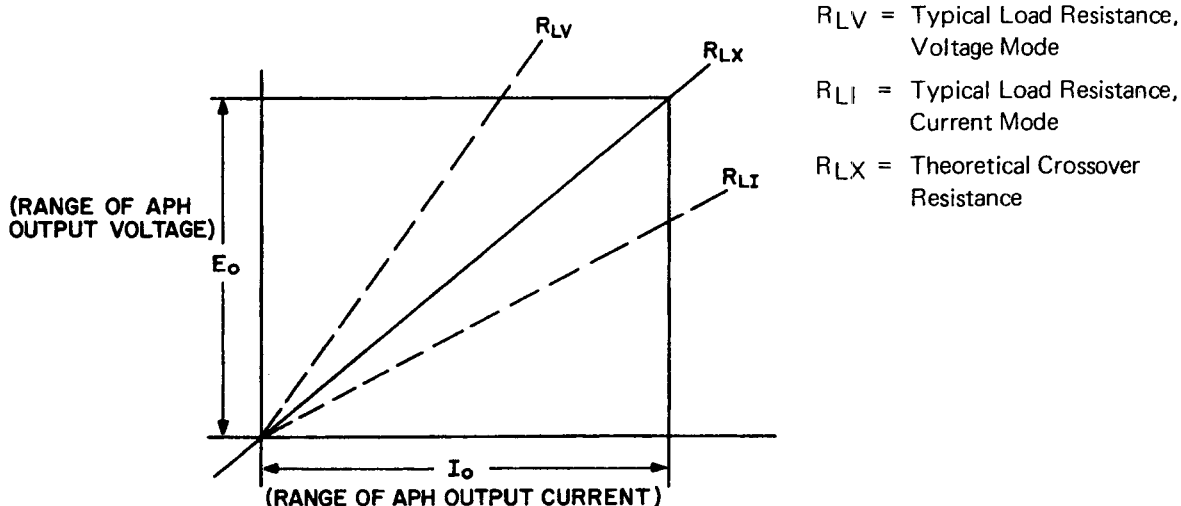

FIG. 3-1 OUTPUT VOLTAGE/CURRENT CHARACTERISTIC, APH.
- a) As a precision VOLTAGE OR CURRENT SOURCE, the control channels of the APH are utilized with either local feedback (built-in, 10-turn front panel rheostats), with external feedback (remote control resistance), or programmed with external control voltages. With either control method, the APH output is stabilized and controlled over the full rated range of the APH model. The operating mode ("Voltage Mode" or "Current Mode") is determined by the load resistance and by the magnitude of the set (at the front panel or externally) output quantities. If, in Figure 3-1, " $E_o$ " (output voltage) and " $I_o$ " (output current) represent the respective settings of the APH output quantities, set by means of front panel or external controls, the "crossover" resistance ( $R_{LX}$ ) is given by Ohm's Law:
Any load resistance *smaller* than  $R_{LX}$  (as for example  $R_{LI}$  in FIG. 3-1) will transfer the APH into the "Current Mode." With any load resistance *larger* than  $R_{LX}$  (as for example  $R_{LV}$  in FIG. 3-1), the APH will operate in the "Voltage Mode." The prevailing operating mode is indicated by means of front panel mode indicator lamps.